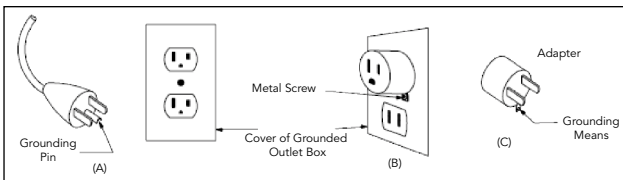

Figure 65.1
- This product is for use on 120 volt electrical outlets. The cord has a plug as shown at A in Figure 65.1. An adapter, as shown at C, can be used to connect three-blade grounding-type plugs to two-slot receptacles (it is not included with your product). The green grounding lug extending from the adapter must be connected to a permanent ground such as a properly grounded outlet box. An adapter should not be used if a three-slot grounded receptacle is available. \*NOTE: A TWO-PRONG ADAPTOR IS NOT INCLUDED WITH THIS PRODUCT.